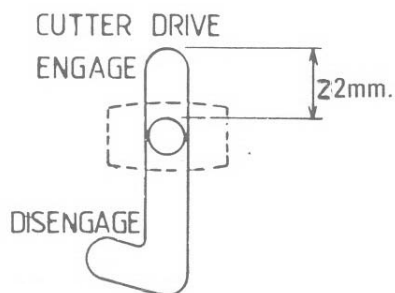

Fig 18
3. Adjust nyloc nuts on engagement lever rod to give approx. 32mm gap between top of lever and end of slot. Fig. 18.